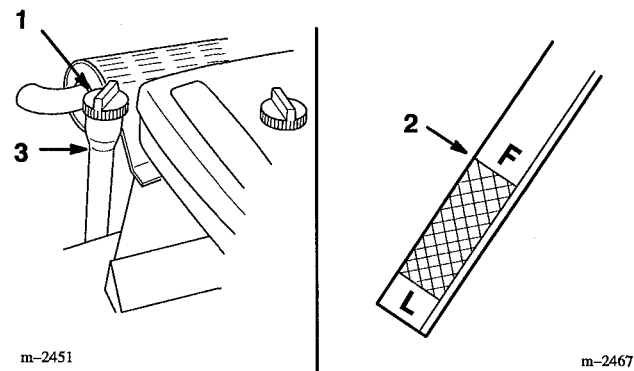

Figure 18
3. Clean around the oil dipstick (Fig. 18) so dirt cannot fall into the filler hole and damage the engine.
4. Unscrew the oil dipstick and wipe the metal end clean (Fig. 18).
5. Slide the oil dipstick fully into the filler tube, do not thread onto tube (Fig. 18). Pull the dipstick out and look at the metal end. If oil level is low, slowly pour only enough oil into the filler tube to raise the level to the "FULL" mark.
6. Slowly pour approximately 80% of the specified amount of oil into the filler tube (Fig. 18). Now check the oil level; refer to Checking Oil Level, page 24. Slowly add additional oil to bring to "FULL" mark on dipstick.